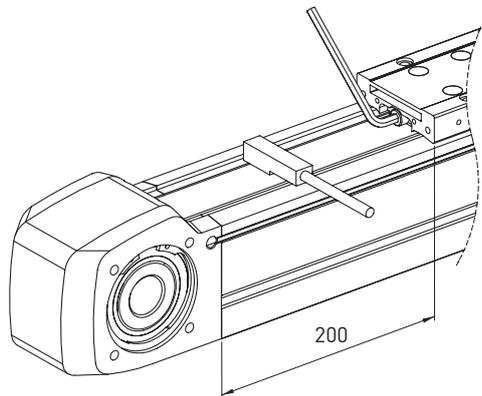

Fig. 7.24 Preloading the toothed belt
- ▶ Set the distance between the carriage edge and the edge of the drive block housing to 200 mm as shown in Fig. 7.24.